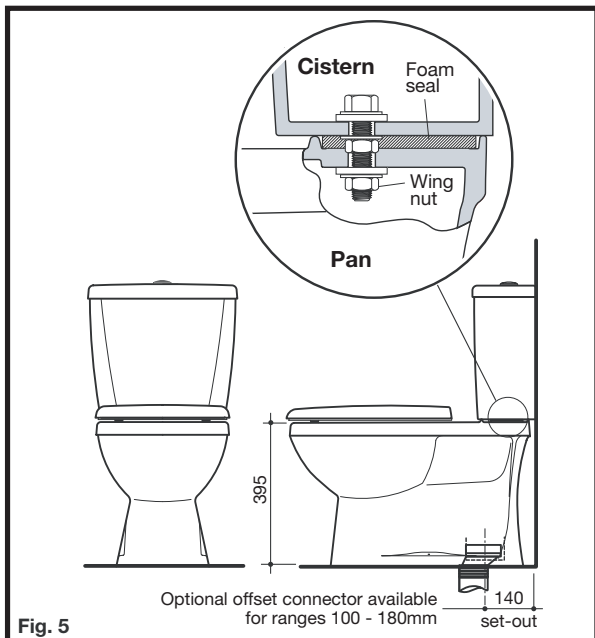

Fig. 5
Important: Use only Caroma performance approved offset pan connector. Code No: 687270. The 40mm optional off set connector is available to help achieve the set out of 140mm on existing installations, where the soil pipe is between 100mm min. and 180mm max. set out ranges specified for connector, as detailed in **Fig 5. (sold separately).**
- 1- Securely attach the self-adhesive foam seal around the outlet on the base of cistern, as detailed in **Fig. 5**.